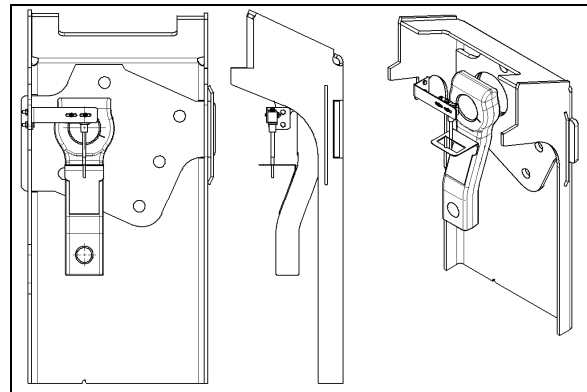

FIGURE 16: TAG AXLE UNLOADING SWITCH ADJUSTMENT
- Line up switch lever with reference to the bracket center (Refer to figure 16).